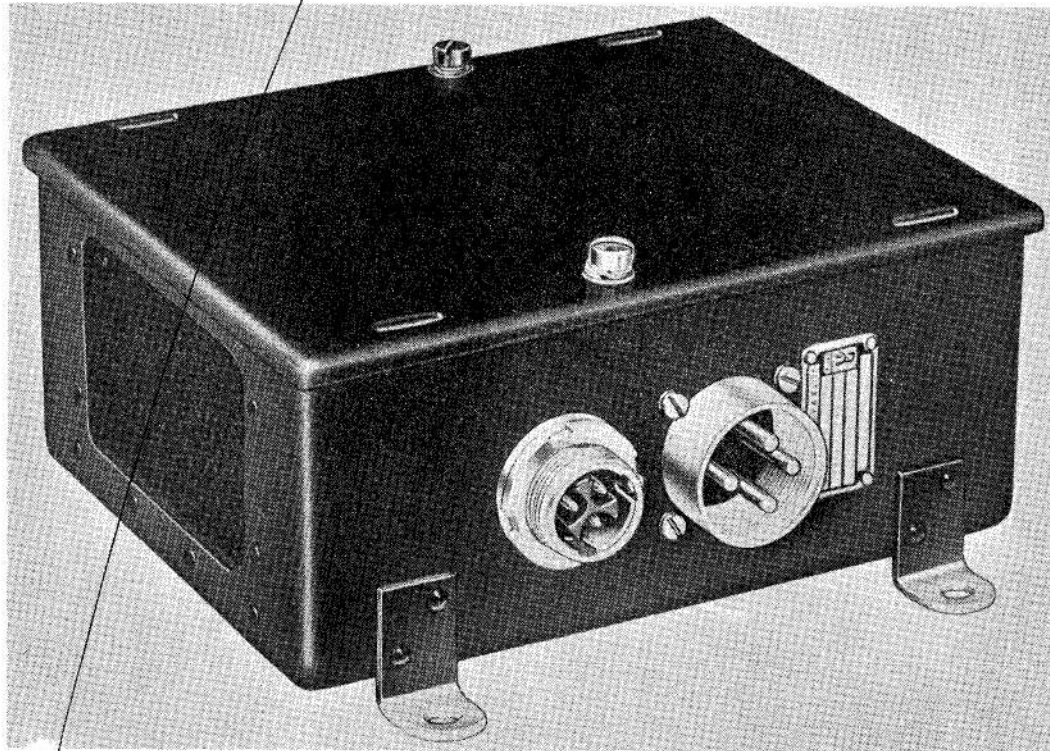

Fig. 1. General view of control panel Type 24
I. The control panel Type 24 (fig. 1) has been designed to work in conjunction with